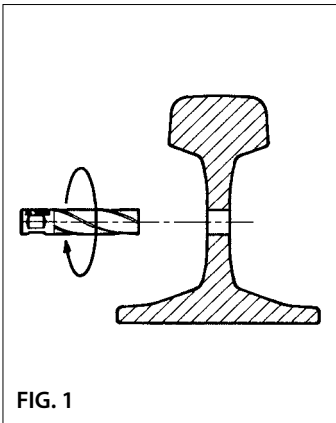

FIG. 1
2. INSTRUCTIONS FOR USE (Ref. to Figs. 1 ÷ 7)
2.2) Drill rail web or, if already drilled, use a suitable reamer to clean the hole (Fig. 1).